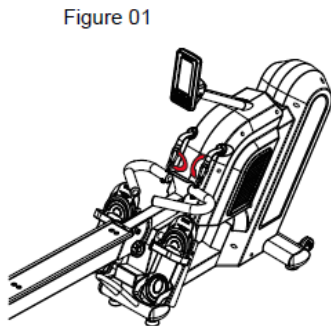

Figure 01
- Remove B23 from the front of A01 (Fig. 01).
1. Drive (lower body muscle group training): Bend your knee and stretch your arms. Hold the handle of the rowing machine with back straight up (Fig. 01).